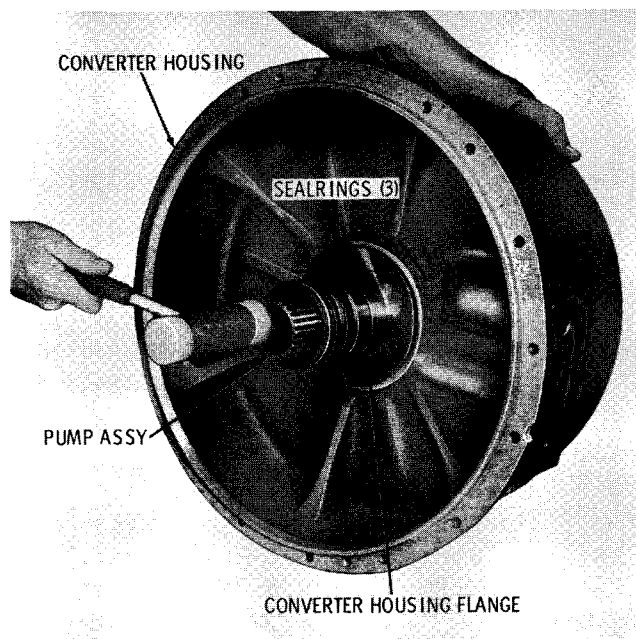

Fig. 5-17. Removing pump assembly from converter housing S2017
(10) Remove the pump assembly (fig. 5-17) by tapping, with a soft hammer, on the